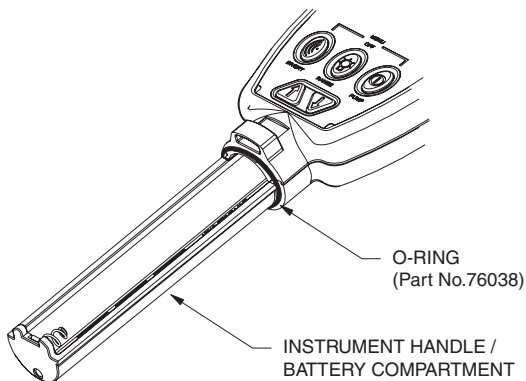

Fig. 12.13 Replace O-Ring
- 5) Before fitting the battery cover, check the O-ring for signs of damage or wear and replace if necessary. Refer to Fig. 12.13.